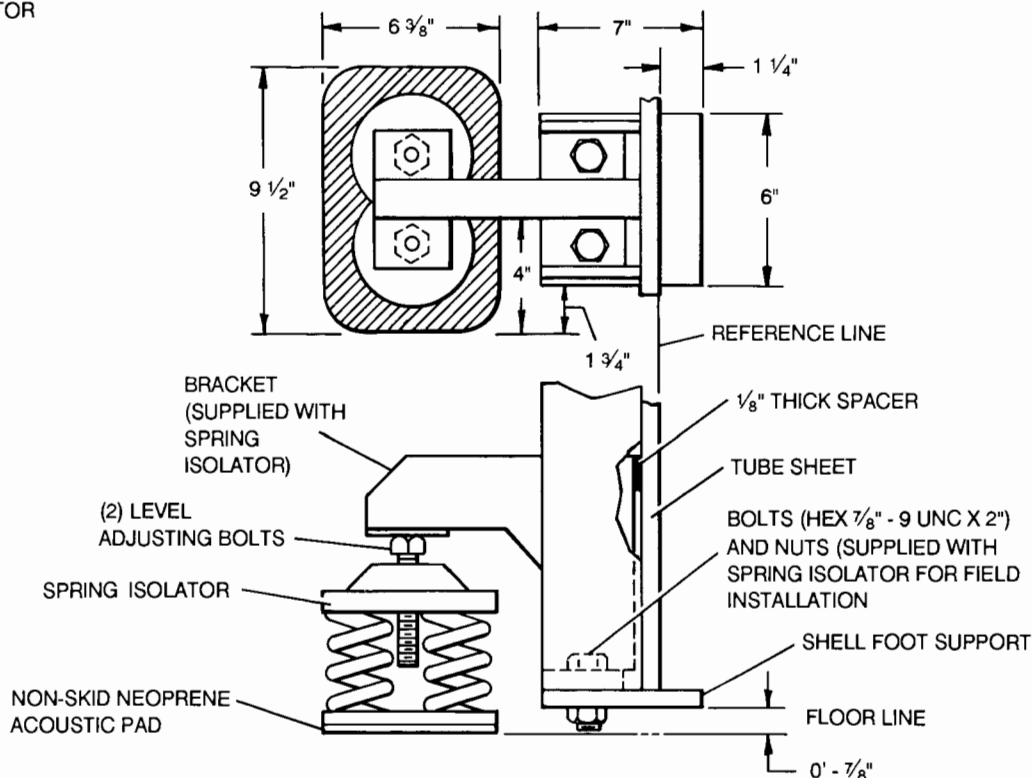

FIG. 7 – INSTALLATION AND ADJUSTMENT OF (OPTIONAL) SPRING ISOLATORS
(Refer to Fig. 7 & Form 160.65-PA1.1)
Install the four (4) high efficiency spring vibration isolator assemblies on the unit after the unit has been properly located. Assemble the optional spring isolators per Fig. 7. After assembly of the spring isolators has been completed turn down the jacking screw of each isolator until the bottom of the shell foot support is about 7/8" of the floor. The isolator jacking screws should be well lubricated when received from the factory. If the screws are not well lubricated the following lubricants are recommended: